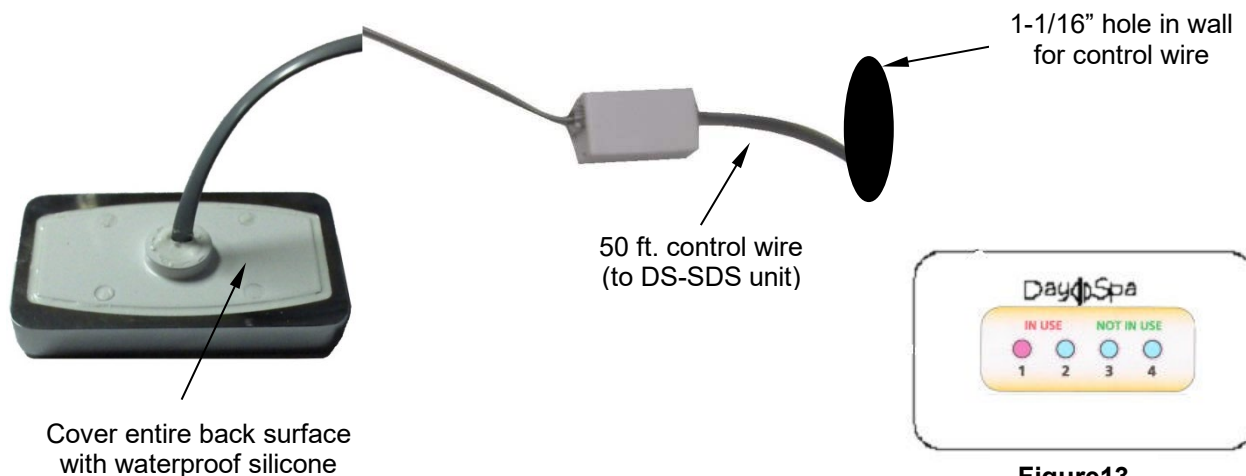

Figure13
1. The Day Spa Sentinel (**Figure 13**) can be located anywhere within 100 ft of the Steam Distribution System (DS-SDS).
(Figure 13). Let dry for 24 hours before using.